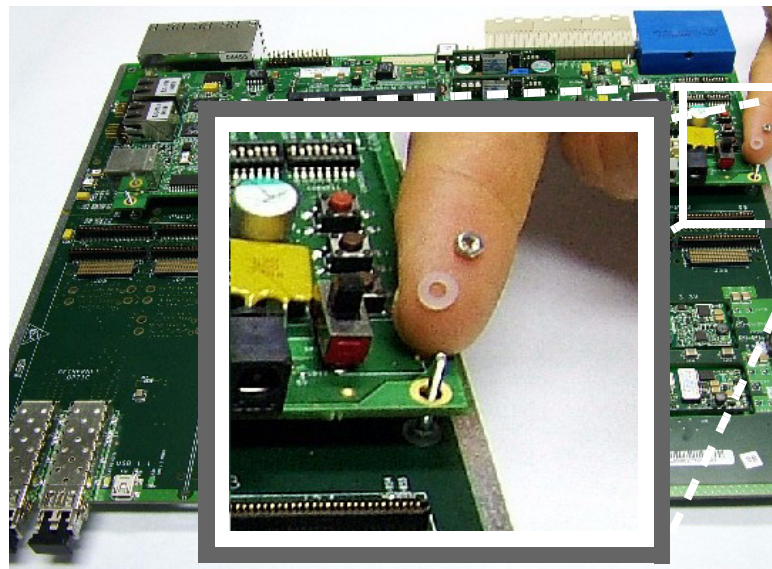

Figure 2-4 Fasten the four tightening screws
5. Manually fasten the four screws as shown in Figure 2-4.